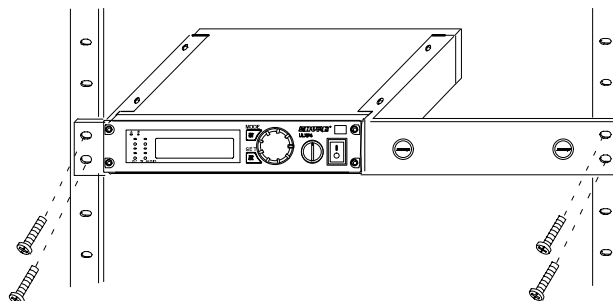

FIGURE 48
3. Slide the receiver into an 19-inch audio equipment rack. Refer to Figure 48.